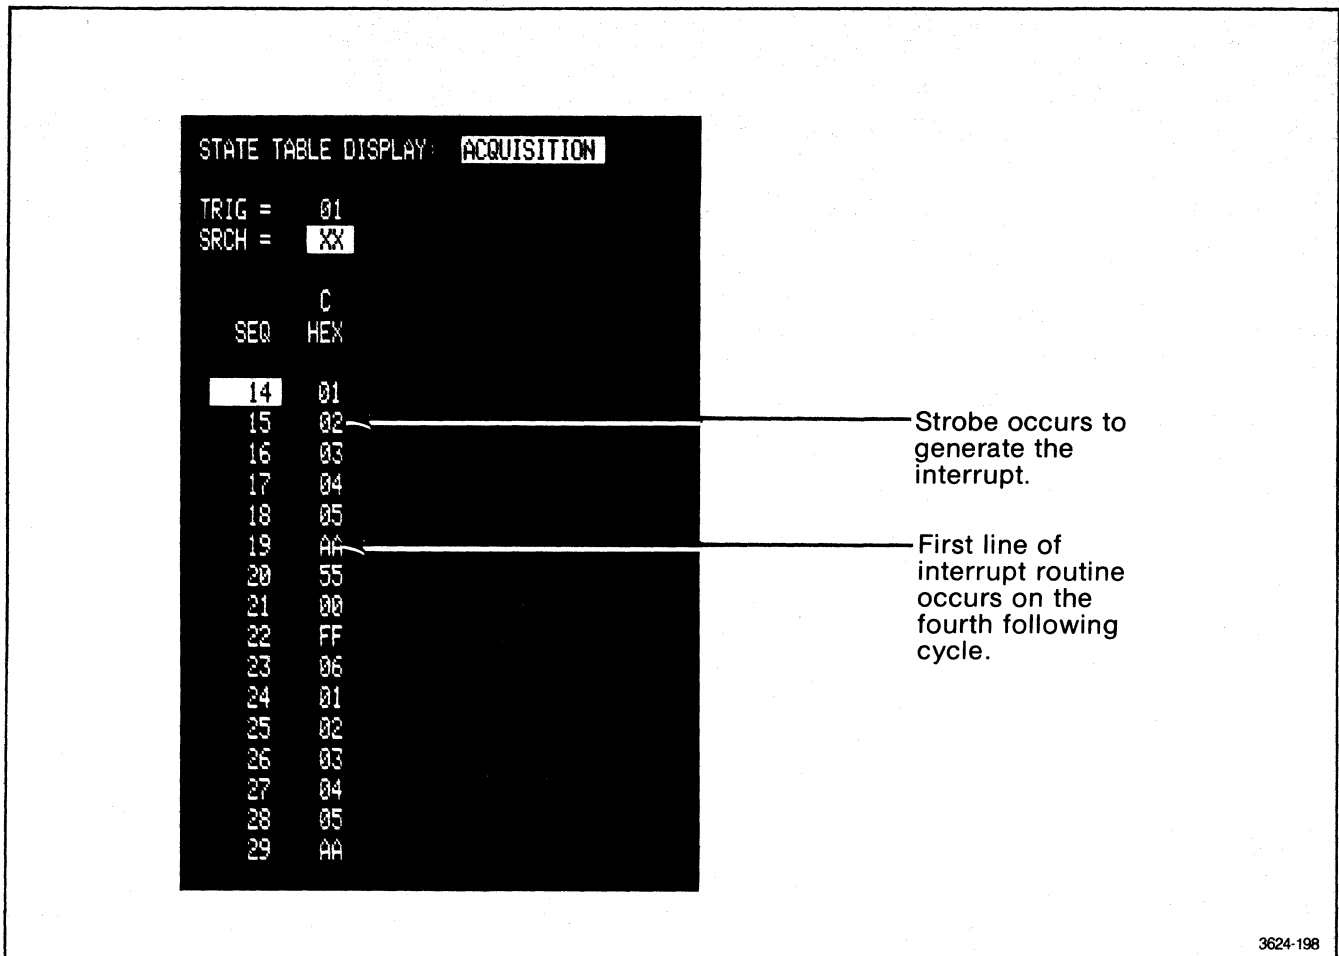

Figure 11-23. Acquisition display of the example interrupt program.
Figure 11-23 illustrates how the interrupt program appeared when it was acquired. The interrupt signal was sent out in conjunction with the 02 data value (SEQ 1) and the first line of the interrupt routine (AA) was output on the fourth follow-